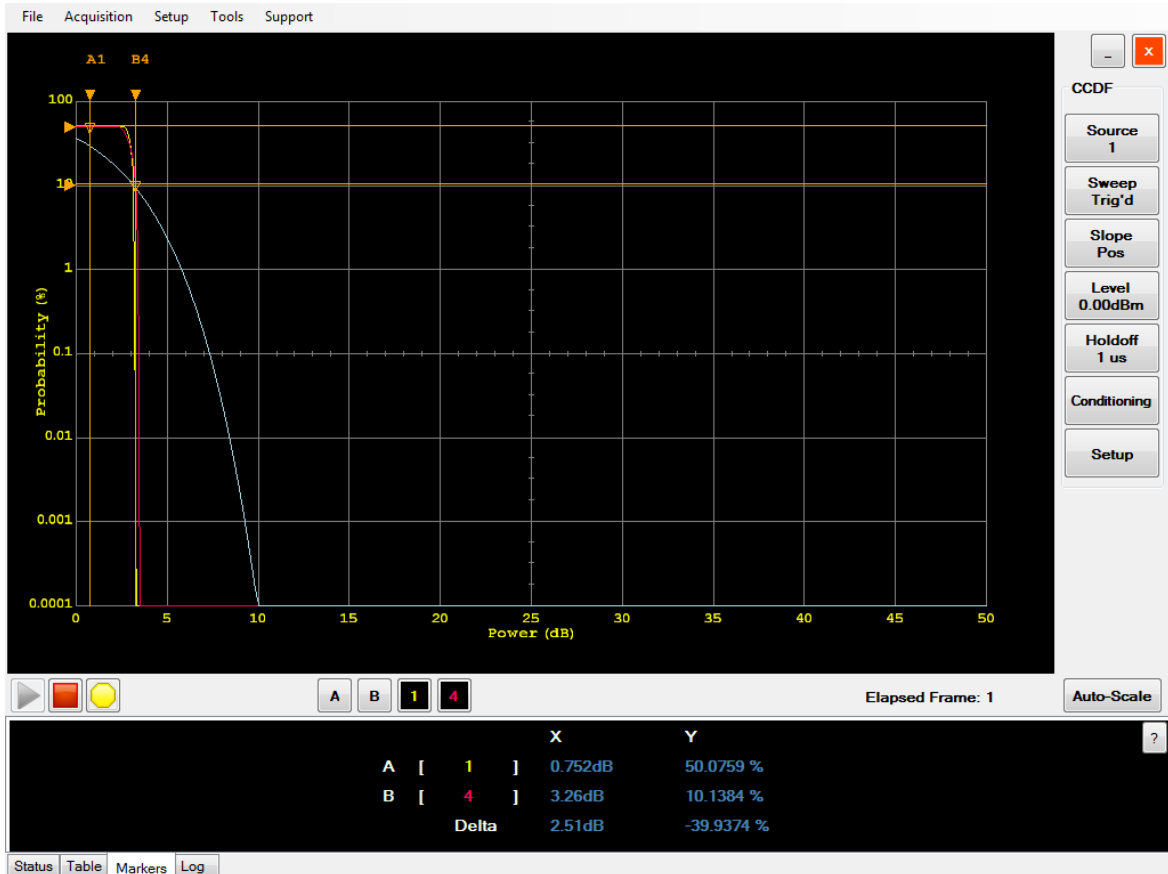

Figure 2-64 Marker view in CCDF
- 4 The Marker view displays the X-axis and Y-axis values for the markers, and the delta values between the two markers that you enabled on the trace as shown in Figure 2-64.